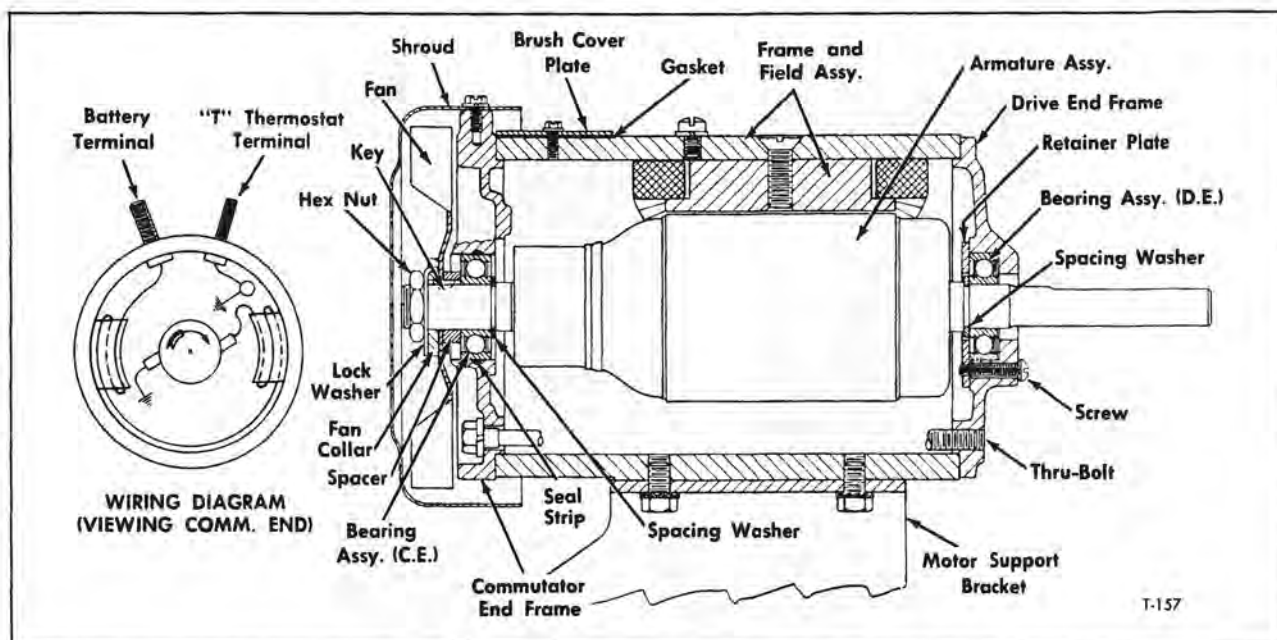

Figure 29—Underfloor Blower Motor (Standard)
**NOTE:** Figure 29 shows sectional view of standard motor assembly.
5. At commutator end of motor, install ventilating fan to motor shaft. Referring to figure 29, install spacer, drive key, fan, fan collar lock washer and hex nut. Tighten nut firmly.